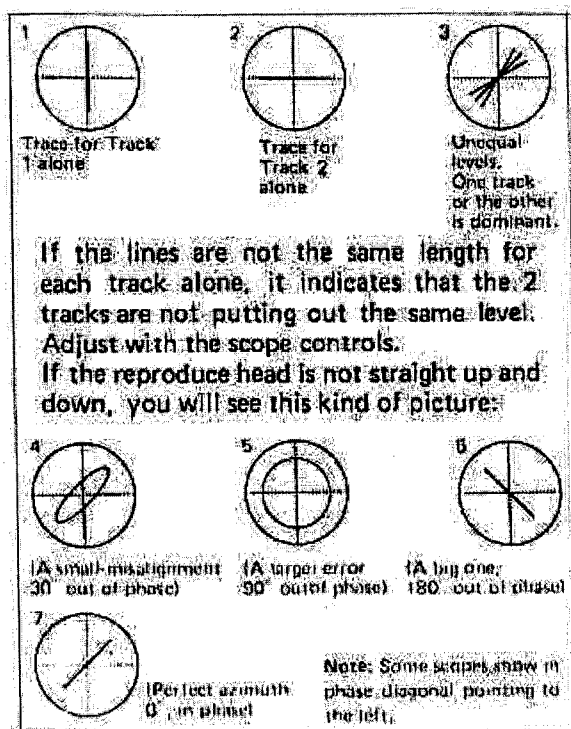

Fig. 9-7-7. Phase Shift
5. Load the reproduce alignment test tape to reproduce at low speed. A scope display showing phase relations between both channels will be obtained as shown in Fig. 9-7-7.